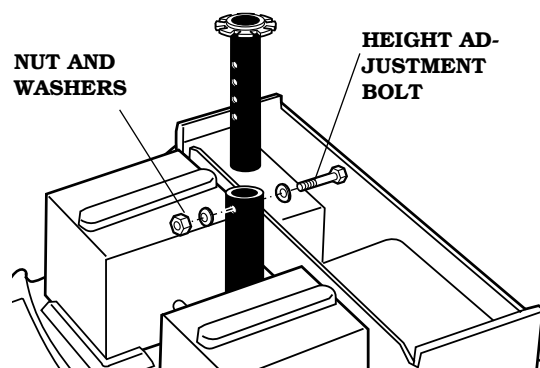

FIGURE 7. SEAT HEIGHT
3. Remove the bolt, nut, and washer that hold the seat post in the seat pedestal. See figure 7.